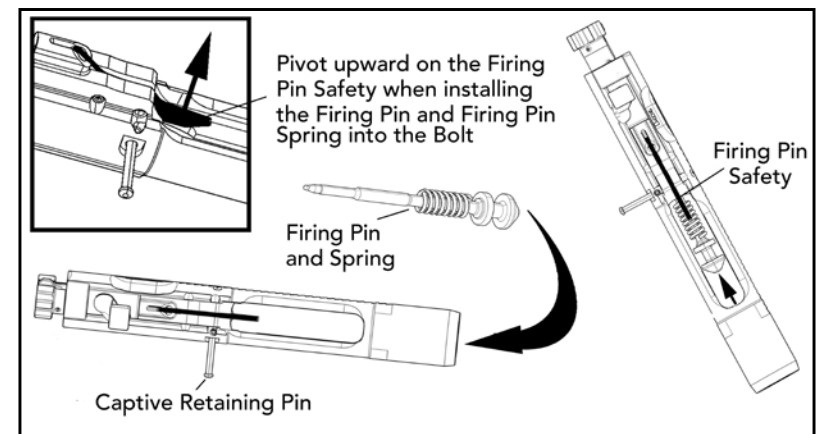

Fig. 46 – Installing the Firing Pin
- e. Ensure that the captive firing pin retaining pin is drifted completely out to the left hand side of the bolt carrier. Insert the firing pin spring onto the firing pin, pivot upwards on the spring loaded firing pin safety, and insert the firing pin and spring into the bolt carrier's firing pin tunnel until the firing pin reaches its limit of forward travel (Fig. 46)